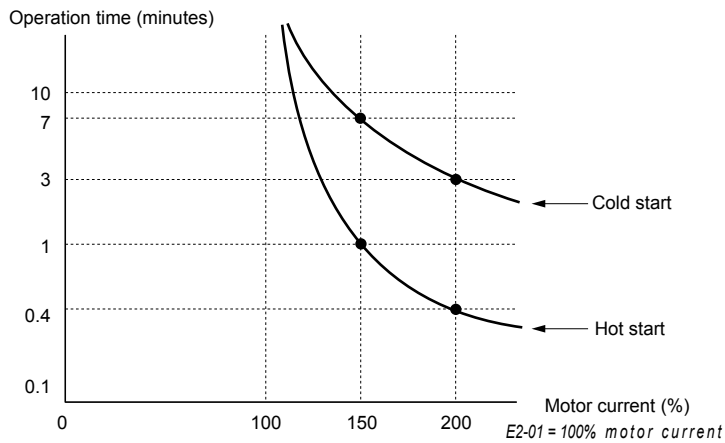

Figure 5.74 Motor Protection Operation Time
- Figure 5.74 shows an example of the electrothermal protection operation time using a general-purpose motor operating at 60 Hz with L1-02 set to one minute.